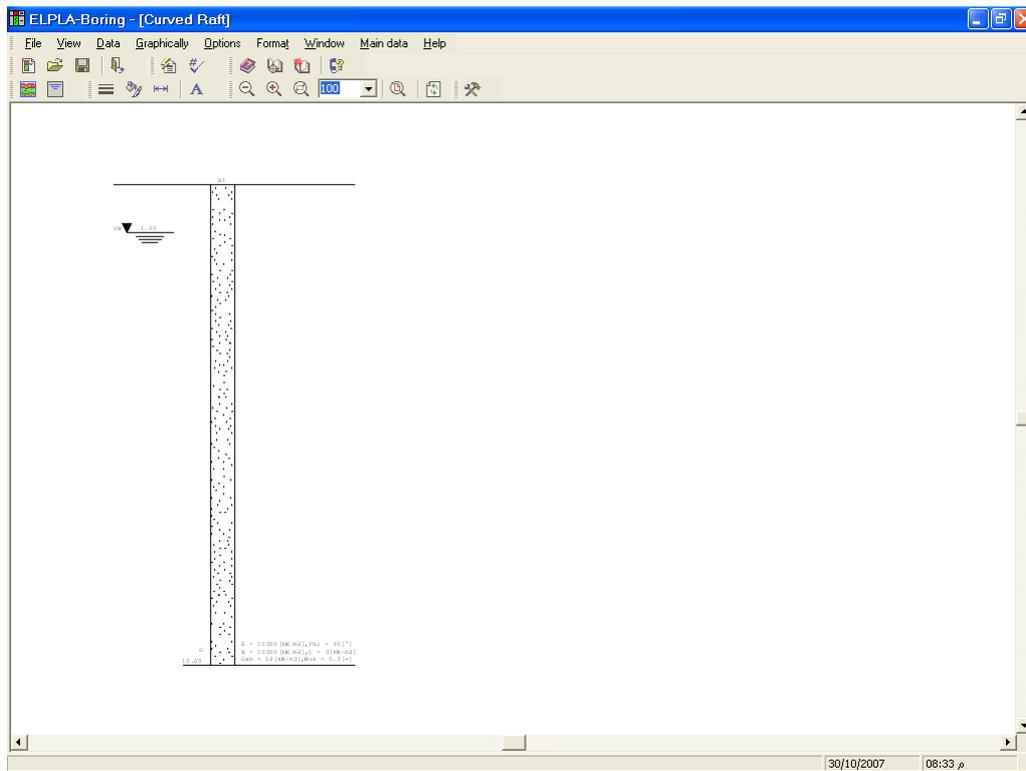
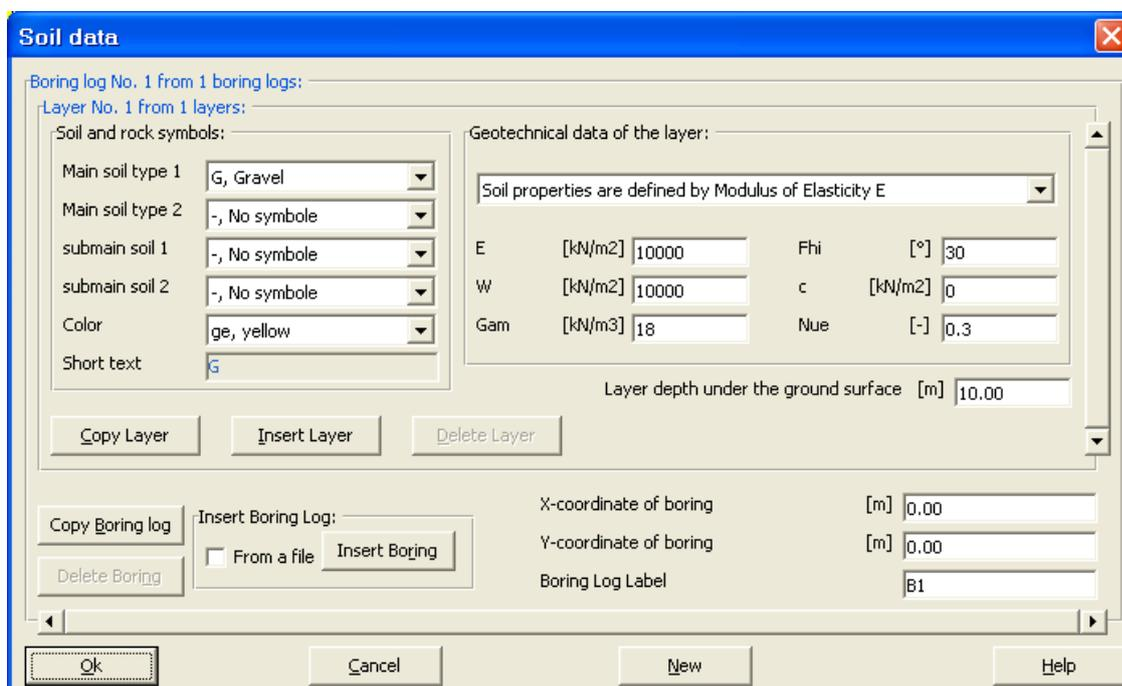
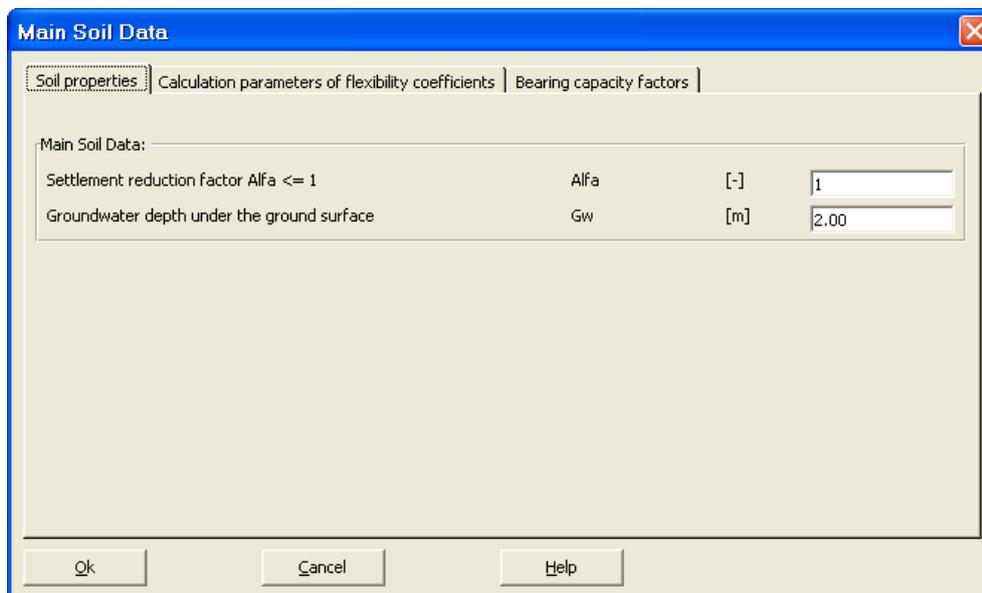
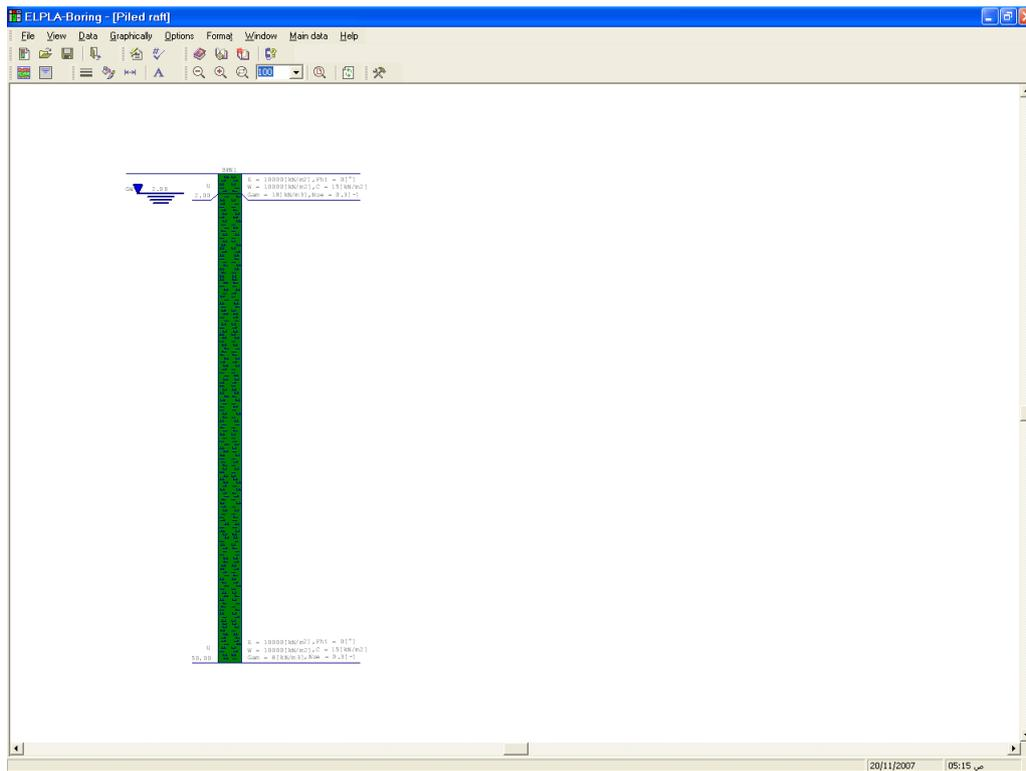

Figure 12-20 *ELPLA-Boring* sub program with a default-boring log
Figure 12-21 "Soil data" dialog box with default-boring log data
Figure 12-22 "Main soil data" dialog box
Figure 12-23 Boring log on the screen
To define the soil properties, choose "Soil properties" command from "Data" menu of *ELPLA-Data*. The following sub program in Figure 12-20 appears with a default-boring log.
- Choose "Soil data" command from "Data" menu in the window of Figure 12-20. The following dialog box in Figure 12-21 appears with default-boring log data.
In the "Geotechnical data of the layer" dialog group box in Figure 12-21, define the geotechnical data of the first soil layer of the boring log as follows:
To define the soil type and color for the first layer, select "U, Silt" as the soil type in "Main soil type 1" combo box in "Soil and rock symbols" dialog group box, Figure 12-21. The color of the silt according to the German Standard DIN 4023 will be automatically created. The user can change this color. Also, a short text "U" will be automatically created for the silt.
- Click "Layer copy" button in Figure 12-21. A layer that has the same properties of the first layer will be copied
To enter the main soil data for all layers, choose "Main soil data" command from "Data" menu in Figure 12-20. The following dialog box in Figure 12-22 appears with default main soil data. The main soil data for the current example, which are required to be defined, are the settlement reduction factor α [-] and the groundwater depth under the ground surface G_w [m]. Any other data corresponding to main soil data are not required in this example. Therefore, the user can take these data from the default soil properties.
In the dialog box of Figure 12-22, enter the settlement reduction factor α [-] and the groundwater depth under the ground surface G_w [m]. Then click "OK" button.
Now all data and parameters for the boring log have been entered. After finishing the creation of the boring log, click "OK" button in "Soil data" dialog box in Figure 12-21 to see the defined boring log on the screen where the user can control or modify the input data and parameters, Figure 12-23.
- Choose "Save boring logs" command from "File" menu in Figure 12-23 to save the data of boring log
- Choose "Close boring logs" command from "File" menu in Figure 12-23 to close the *ELPLA-Boring* sub program and to return to the main window of *ELPLA-Data*